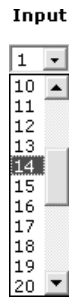

Figure 96. Input Selection Drop Box
1. Click the **Input** drop box. A drop down scroll box appears (see figure 96).